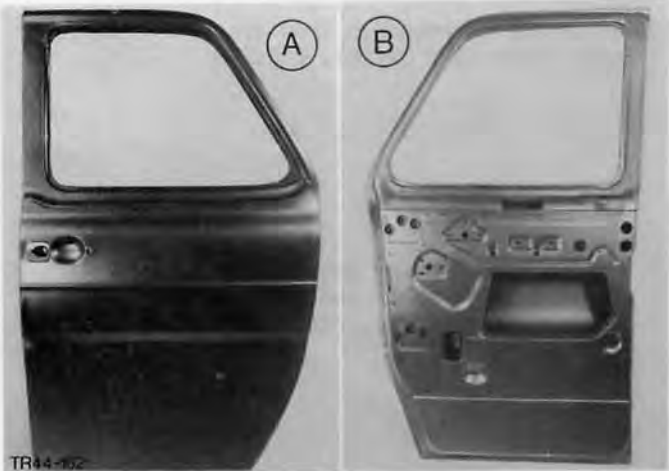

Fig.105. View of door.
9. Loosen hinge bolts (6) on door and remove door, Fig.105.